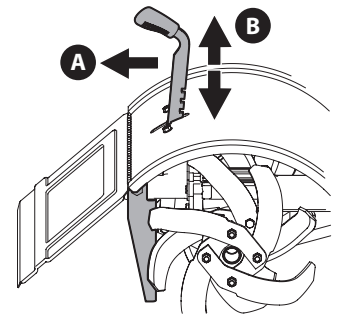

Figure 13
3. Move the Depth Regulator Lever all the way down to the "travel" position, so that the tines clear the ground. To change the depth setting, pull back on the Depth Regulator Lever (A) and lift up or down (B), then release the lever to secure it in the desired position. See Figure 13.